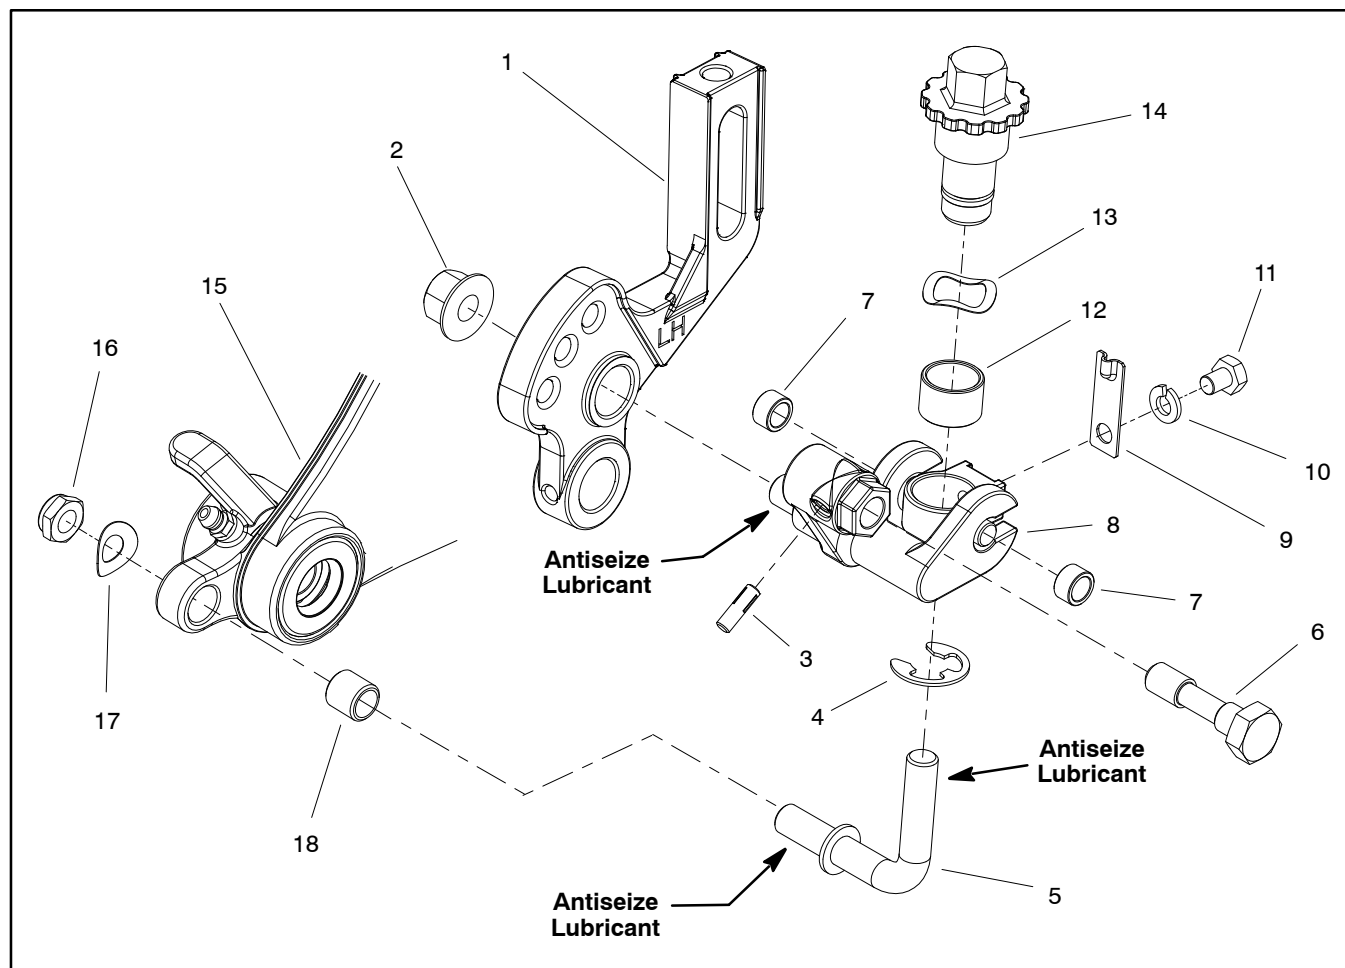

Figure 30
**Disassembly (Fig. 30)**
1. Remove flange nut (item 2) that secures lift arm to HOC groomer arm. Remove lock nut (item 16) and spring washer (item 17) that secure lift arm to side plate. Loosen lock screw (item 6) completely.
2. Remove flange nut (item 2) that secures lift arm assembly to HOC groomer arm. Remove lock nut (item 16) and spring washer (item 17) that secure lift arm assembly to side plate. Loosen lock screw (item 6) completely.
4. Disassemble lift arm using Figure 30 as a guide.
**NOTE:** Right and left side HOC groomer arms (item 1) and lift arm assemblies (item 8) are different; other components shown in Figure 30 are the same on both sides of cutting unit.
**NOTE:** Grooved pin (item 3) is used to retain lock screw (item 6) to lift arm assembly.
**Assembly (Fig. 30)**
1. Assemble lift arm using Figure 30 as a guide.
2. Apply antiseize lubricant to threads of groomer lift rod (item 5) and lift arm assembly stud (item 8).
3. Install lift arm assembly onto cutting unit. Secure with flange nut (item 2) and lock nut (item 16) with spring washer (item 17).
4. Secure groomer in raised or lowered position with lock screw (item 6).